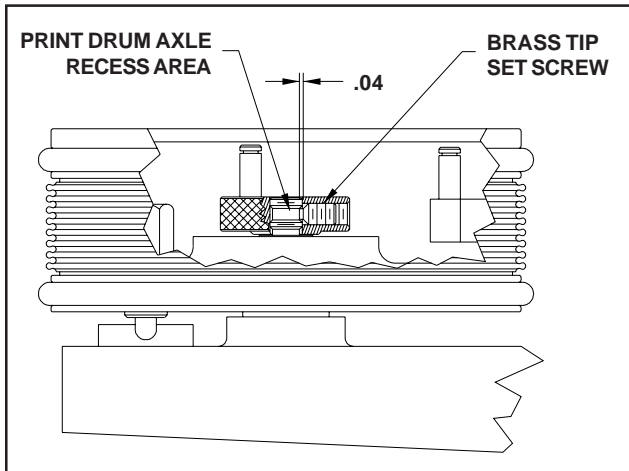

FIGURE 62
**Important Note:** The Print Drum Axle is machined with thread relief as shown in Figure 62 so the tip of the set screw will not damage the threads.